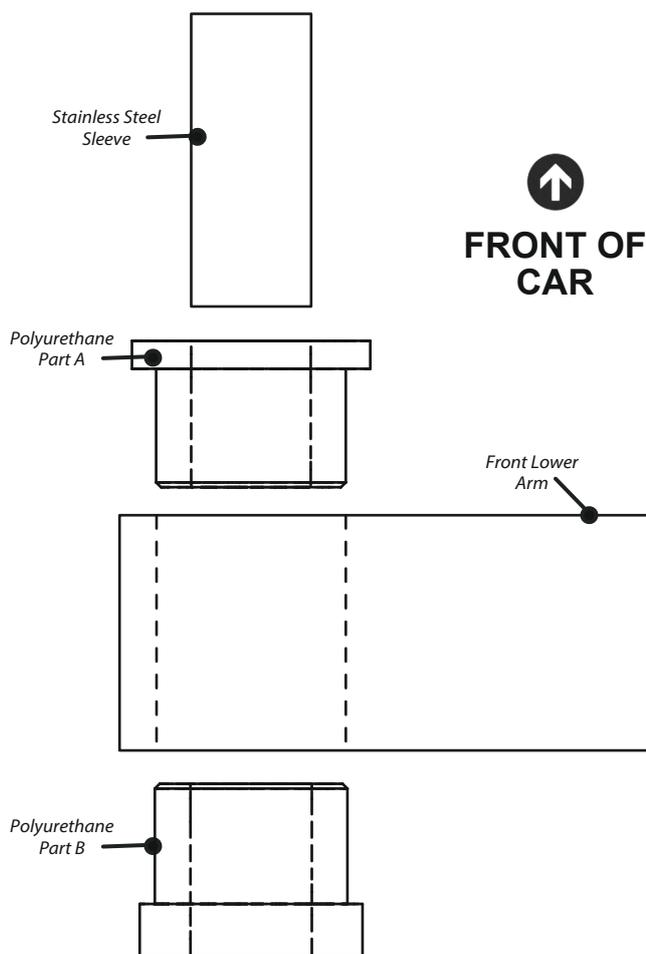

Figure 1
3. Insert polyurethane part A, smaller lip, into the bore of the arm facing towards the front of the car. Polyurethane part B, larger lip, gets pushed in from the rear of the car (Figure 1).